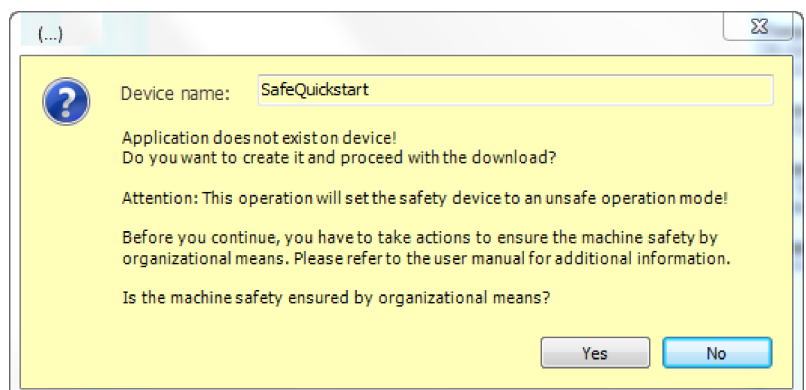

Fig. 79: Dialog for logging in to an "empty" controller
- If there is no application on the controller, the developer will be asked in a dialog whether the application is to be loaded to the safety controller (see Fig. 79). If the application is loaded to the safety controller (download), then the safety controller is in **debug mode**. The application is in online mode.